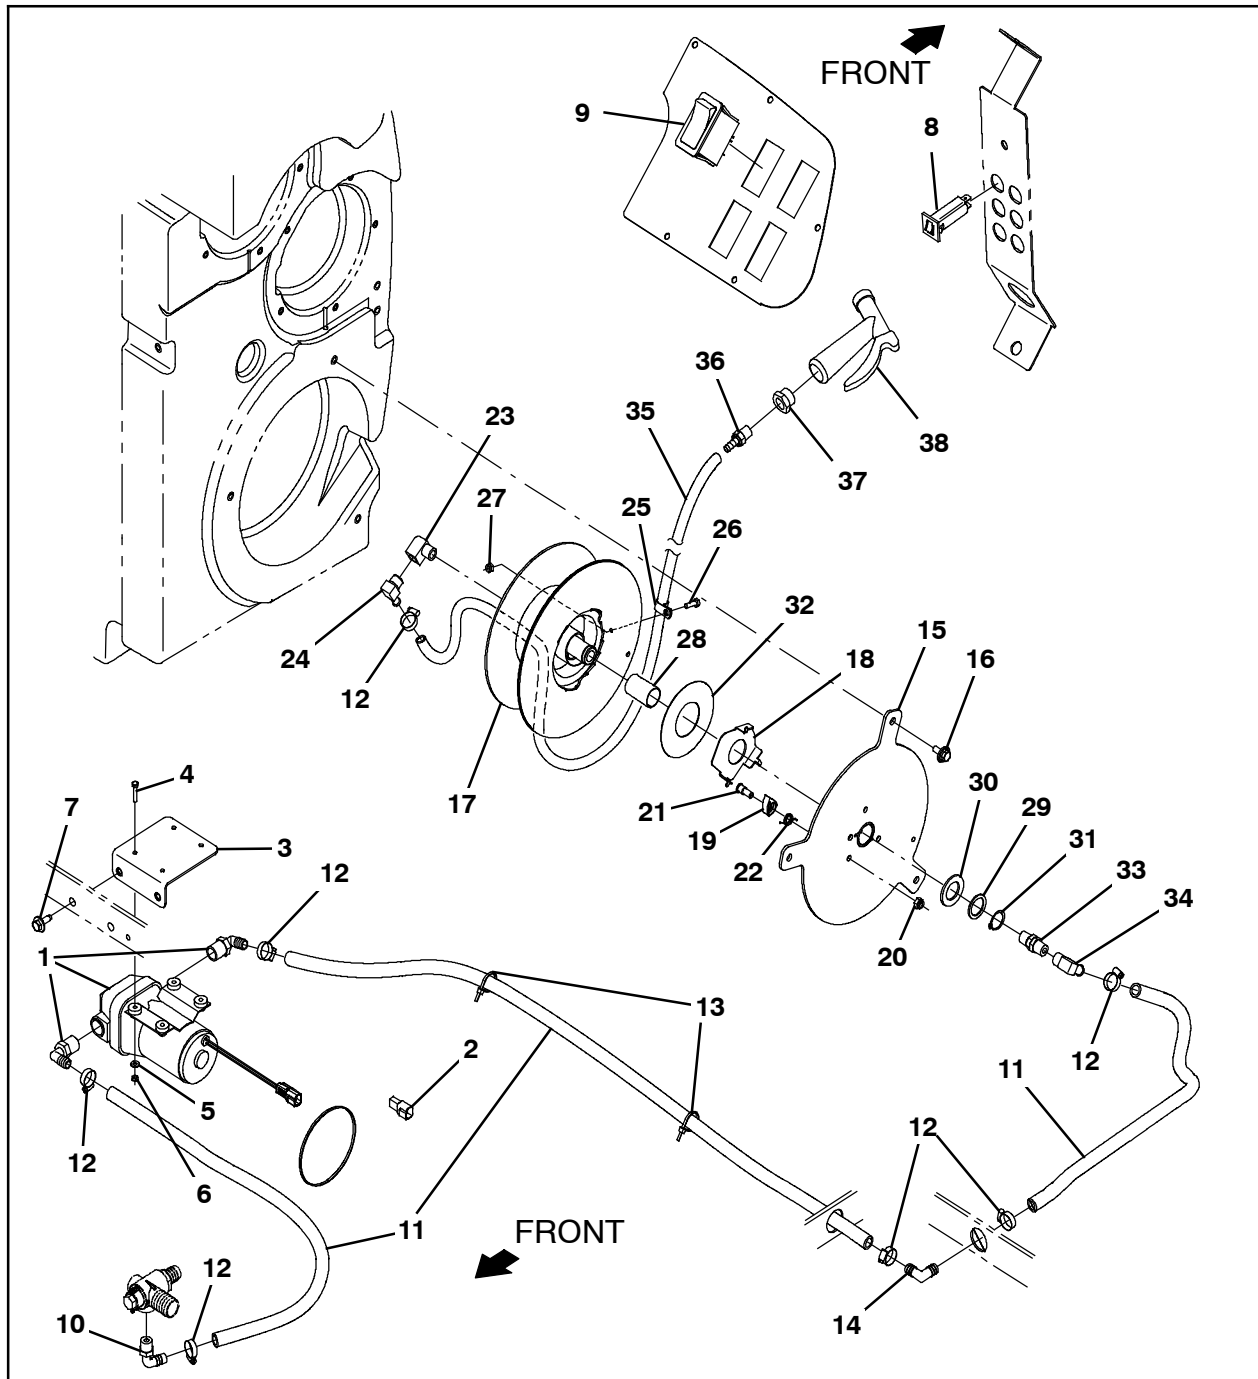
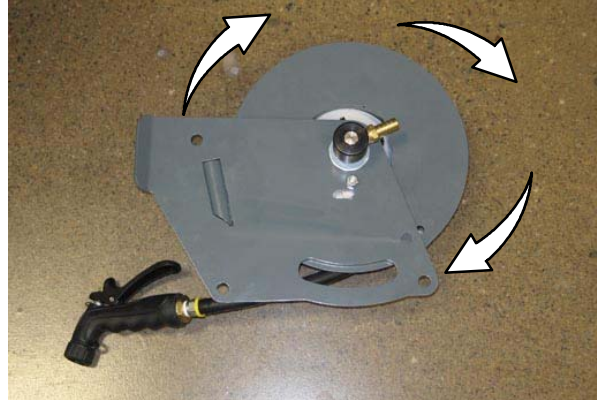

FIG. 13
FIG. 14
1. Wrap the spray hose (35) evenly back onto the reel assembly (17). (Fig. 13)
2. Pull the spray hose (35) out from the reel assembly (17) until the reel assembly has turned at least three revolutions, adding tension to the spring inside the reel assembly.
3. Wrap the portion of spray hose (35) pulled from the reel assembly (17) back onto the reel.
4. Rewind the spray hose completely onto the reel and rotate the spray hose assembly mounting plate four complete turns clockwise to reset the spring tension. (Fig. 14)